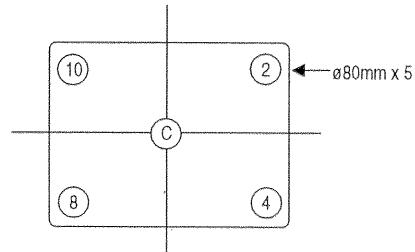

FIGURE 1-3-5
- (10) Set CPT axis direction magnetic field of the artificial magnetic field according to the artificial magnetic field setting list classified by destination. (The direction of the magnetic field should be from the CPT screen side to the neck side.)
- (11) After degaussing it from outside, check the purity in each color to R, G and B visually. Then, turn the screen to white and check the landing at the screen position shown in Fig. 1-3-5 with a microscope.
- (12) Turn over the direction of CPT axis direction magnetic field of the next artificial magnetic field and check it by the same way as item (11). The positions of miss landing criteria with a microscope should be 2, 4, 8 and 10 (Figure 1-3-5).